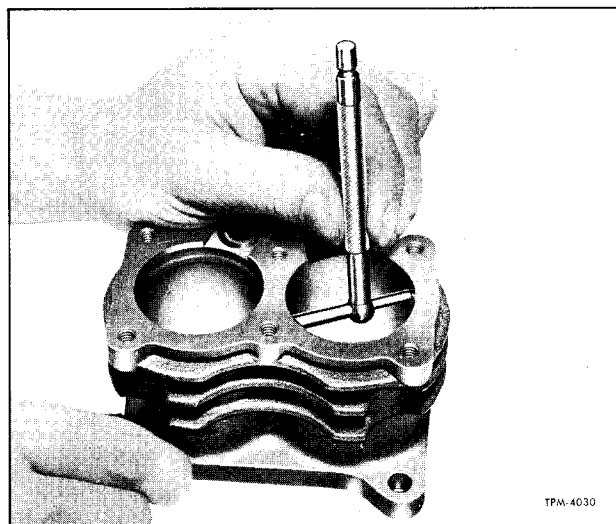

Figure 9—Measuring Cylinder Bore Diameter
6. Cylinder Block (Fig. 9). Use telescoping gauge to check bores for out-of-round and taper. Bores which are scored or out-of-round more than 0.002" or tapered more than 0.003" must be re-bored, honed, or ground oversize. Pistons and rings 0.010", 0.020", and 0.030" oversize are available. Cylinder bores must be smooth, straight, and round and must be finished with a 500 (or finer) grit hone. The clearance between piston and cylinder wall must not be less than 0.002" or more than 0.004". Replace cylinder block if cracked or damaged.